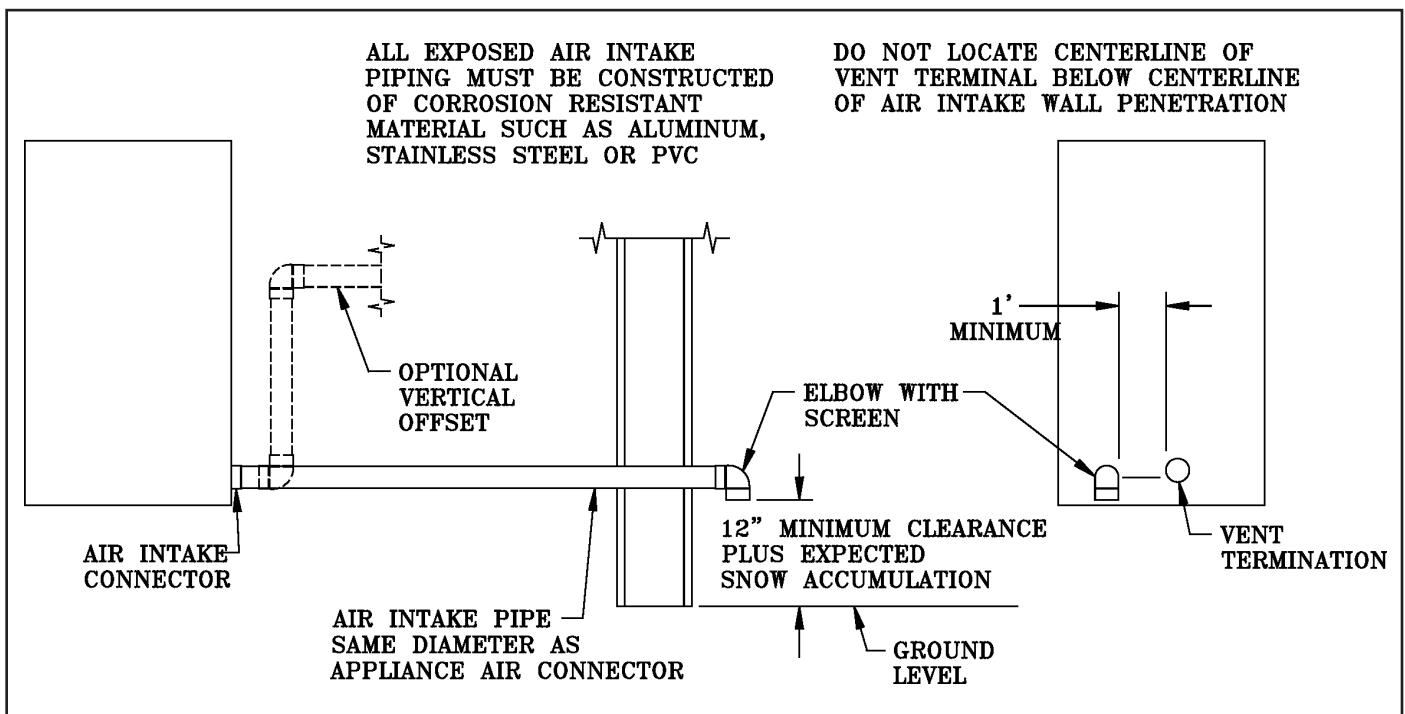

Figure 6: Horizontal Air Intake Piping
B. COMBUSTION AIR - See Figures 6 and 7.
4. The maximum air intake pipe length is fifty (50) equivalent feet. Air intake pipe length is equal to the total length of straight pipe plus the equivalent length of fittings. Consult intake pipe manufacturer for equivalent length of fittings and pipe.